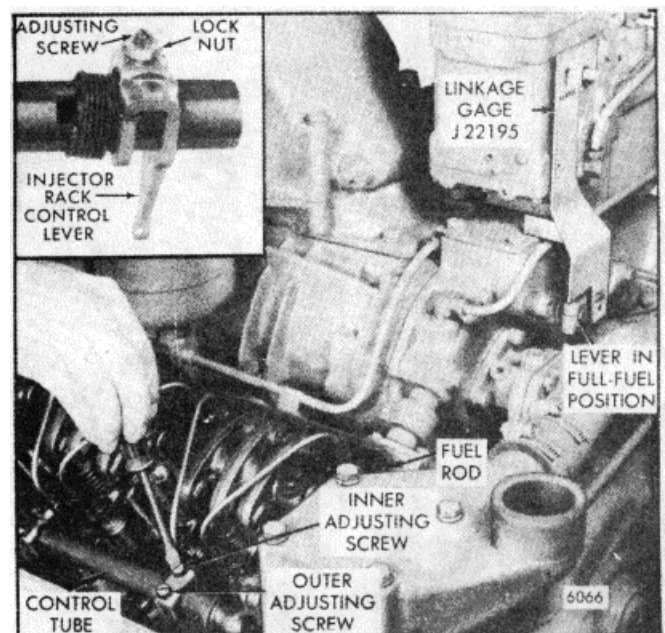

Fig. 3. - Positioning No. 1R Injector Rack Control Lever
7. Adjust the No. 1R injector rack control lever by tightening the adjusting screw until the injector rack clevis is observed to roll up or an increase in effort to turn the screwdriver is noted (Fig. 3). Tighten the screw approximately 1/8 of a turn more and lock securely with the adjusting screw locknut. This will place the No. 1R injector rack in the full-fuel position.
12. Manually hold the No. 1 R injector rack in the full fuel position by means of the injector control tube lever (Fig. 3). Tighten the adjusting screw of the No. 2R injector rack control lever until the injector rack clevis is observed to roll up or an increase in effort to turn the screwdriver is noted. Securely lock the adjusting screw locknut.